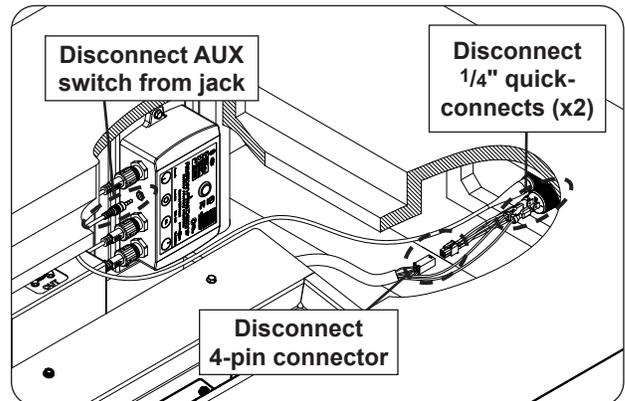

Fig. 32-3 Disconnect AUX switch, connector, and two quick connects
3. Disconnect the AUX switch, 4-pin connector, and two $\frac{1}{4}$ " quick-connects (see Fig. 32-3).